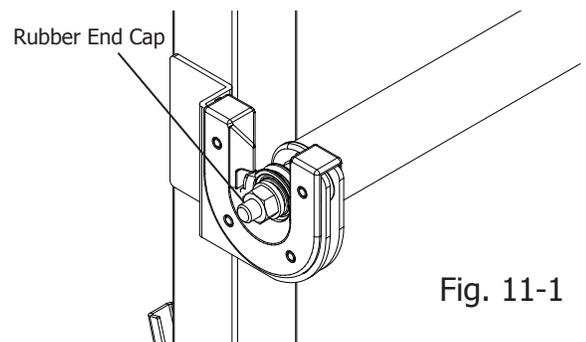

Fig. 11-1
**11-1:** Slide one (1) rubber end cap onto the end of each bolt sticking out of the pole ends, as shown in Fig. 11-1. If the poles are assembled properly there should be approximately 3/8"-1/2" of metal threads showing beyond the ends of each pole.